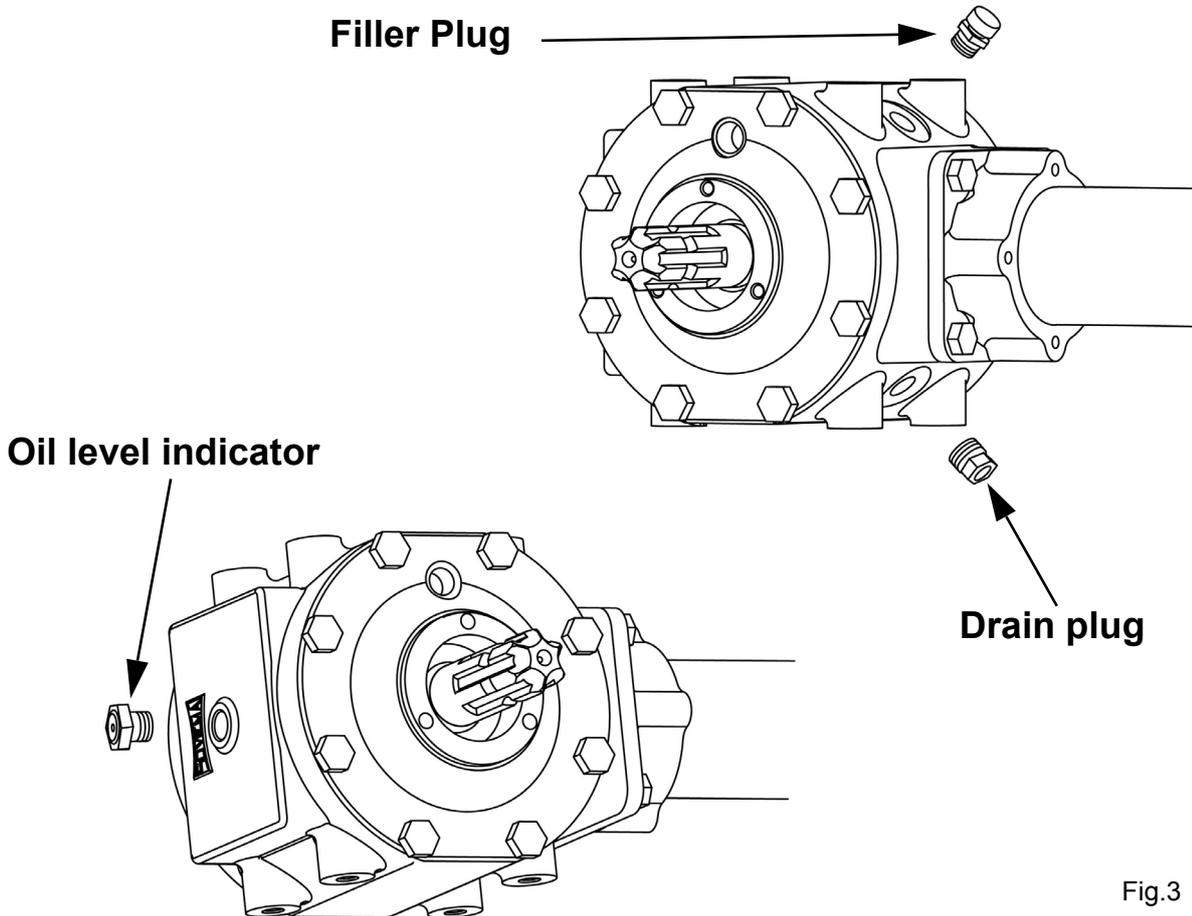

Fig.3
- Verify the oil level in the gearbox through the oil level indicator placed on the side of the gearbox (see Fig.3). In case a refill is needed, unplug the oil filler cap from the top of the gearbox and proceed with the filling until the oil is visible again through the indicator